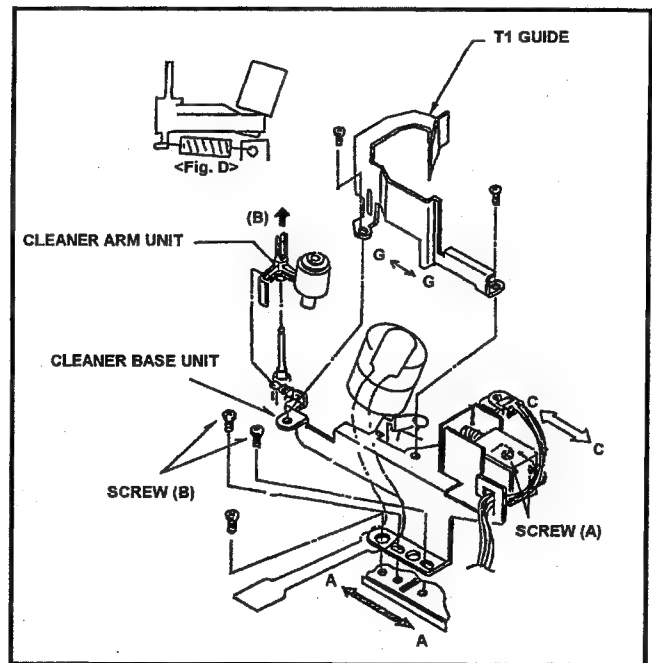

Fig. 6-15-3 Cleaner Solenoid Position Adjustment
2. If not, loosen the 2 screws (B) and move the Cleaner Base Plate to the arrow direction (A⇌A) by the Eccentric Driver (refer to Fig. 6-15-3) so that the clearance (A) is within specification. Then tighten the 2 screws (B).